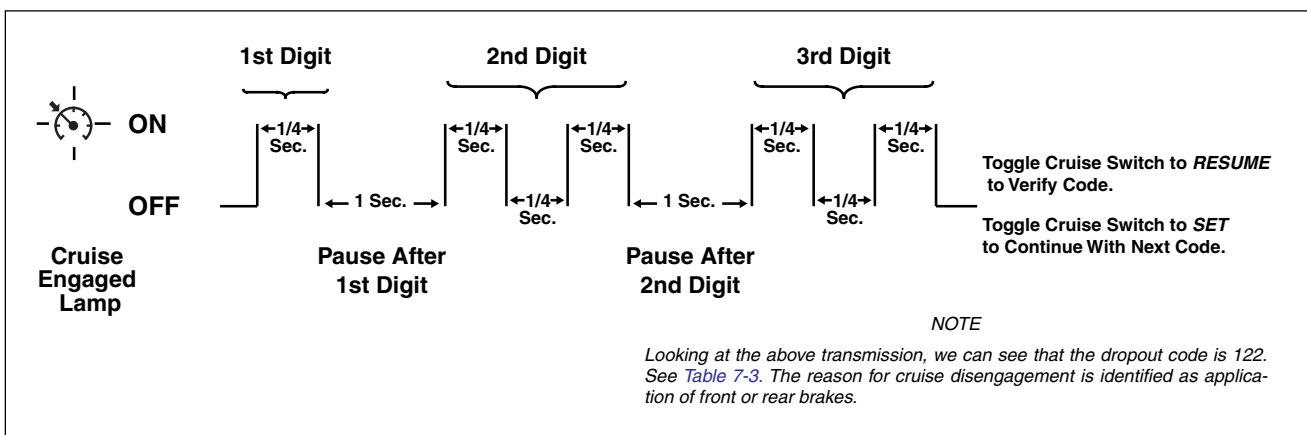

Figure 7-5. Cruise Engaged Lamp Dropout Code Timing Diagram
4. Following transmission of the first digit, there is a one second pause in which the lamp is off. The lamp will then flash one or more times to indicate the second digit of the dropout code. Count the number of times the lamp flashes to retrieve the second digit. See Figure 7-5.